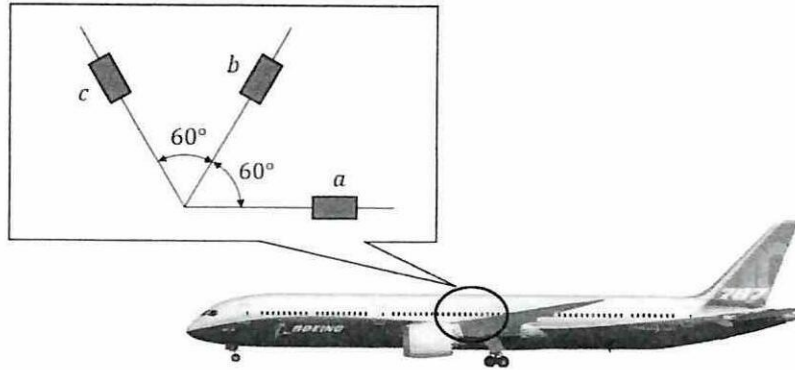

Figure Q1(a)
- (b) The 60° strain rosette bracket is mounted on the aircraft Boeing-787 Dreamliner wing as shown in **Figure Q1(a)**. The bracket is made of steel with the Modulus of Elasticity, $E_{st} = 200$ GPa and the Poisson's ratio, $\nu = 0.3$. Due to the loadings during flight test, the readings from the gauges give $\varepsilon_a = 85(10^{-6})$, $\varepsilon_b = 150(10^{-6})$ and $\varepsilon_c = 283(10^{-6})$. Determine: